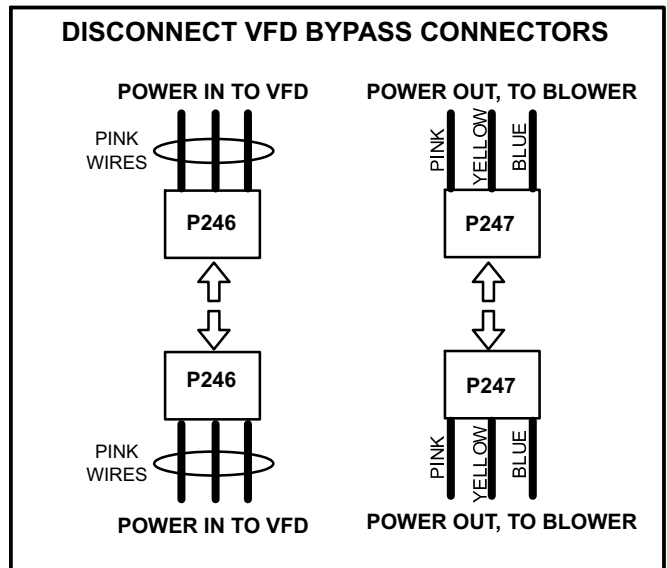

FIGURE 28
10. Disconnect P246 from P246 (power in to VFD) and P247 from P247 (power out to blower). See figure 28.